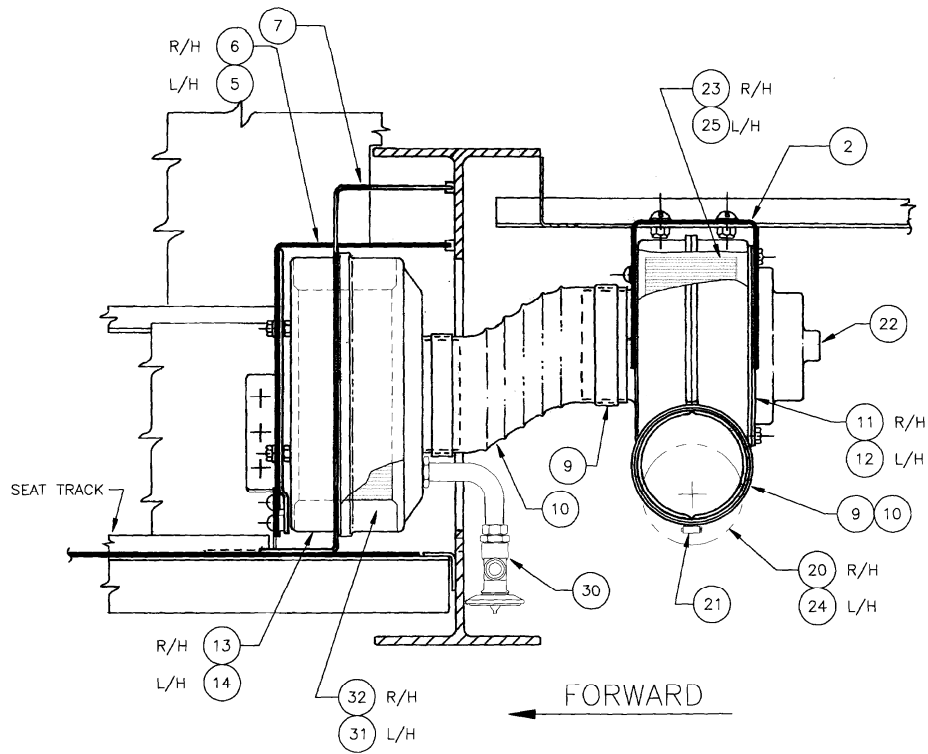

Figure 1: Left and Right Evaporator Assemblies
3. **EVAPORATOR MAINTENANCE PROCEDURES (REF. IPC Fig. 1)**
IPC FIGURE 1